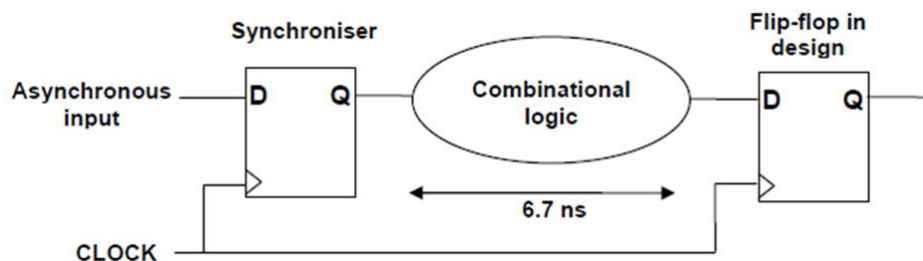

Figure B2.1
- The circuit shown below in Figure B2.1 has two identical flip-flops which are clocked at 30MHz. The synchronising flip-flop is sampling an asynchronous 8MHz input.